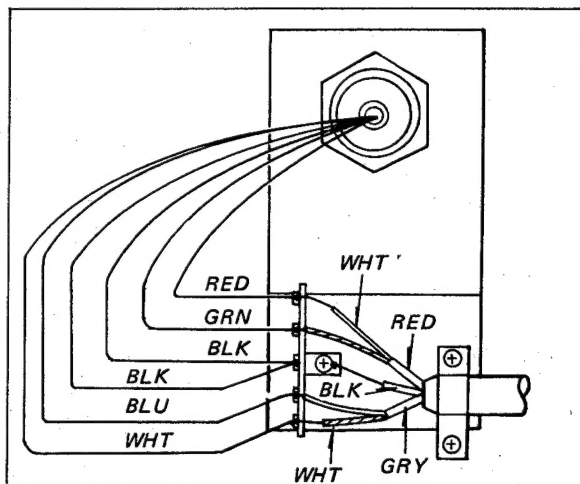

Fig. 2-12. Lead wire connection
3. Unsolder the leads from the terminal beneath the turntable base (See Fig. 2-12).